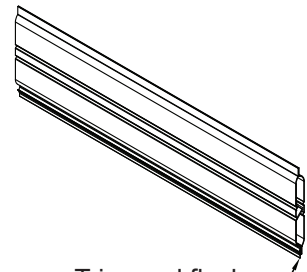

Figure 9
- 3) Trim seal flush with the end of the blade. (Figure 9)